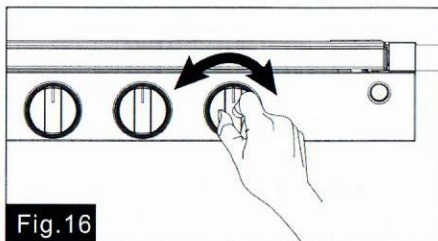

Fig. 16
6. Push and turn the burner control knob to adjust the flame to desired Level. (Figure 16)